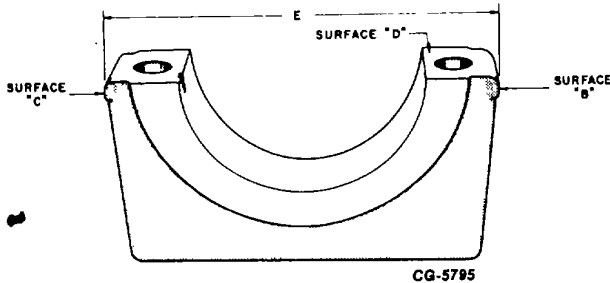

Figure 27. - Bearing Cap Finished Length
7. Subtract dimension "A" of the OLD cap from dimension "A" of the NEW cap and record the difference. Mill or grind this amount from surface "C" (Fig. 27) of the new cap. Dimension "A" of both caps will now be equal.
NOTE: Surface "C" (Fig. 27) must be held square with surface "D" and parallel to the bearing bore.
8. Mill or grind surface "B" (Fig. 27) of the new cap until the dimension "E" 153.67153.72 mm (6.050-6.052 in.) shown from surface "C" to "B" is obtained.
NOTE: Surface "B" (Fig. 27) must be held square with surface "D" and parallel to the bearing bore.
NOTE: Surface "D" (Fig. 27) must be held square with the bearing cap bore.